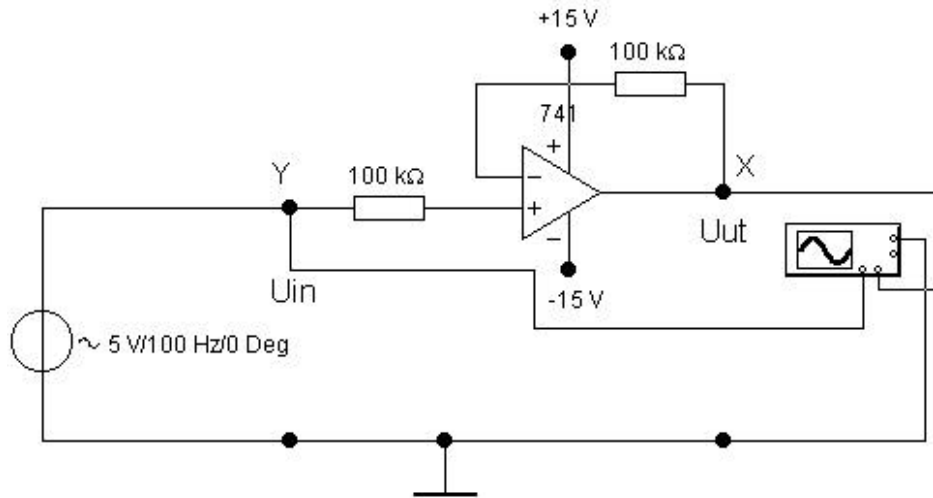

Figure 4.3
- a) Now connect point "X" to U_{out} instead of the ground as shown in Figure 4.3. Observe the transient characteristic of this connection. Calculate the gain of the constructed amplifier.